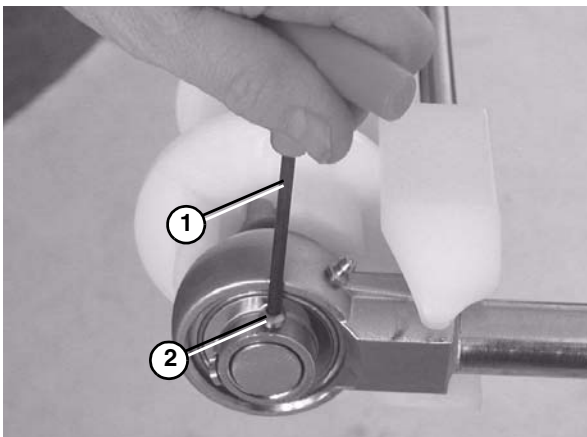

Figure 82
11. Use a hex wrench (**Figure 82, item 1**) to tighten the bearing shaft fasteners (**Figure 82, item 2**) to 54 in•lbs (6 N•m). Check after 24 hours of conveyor use.